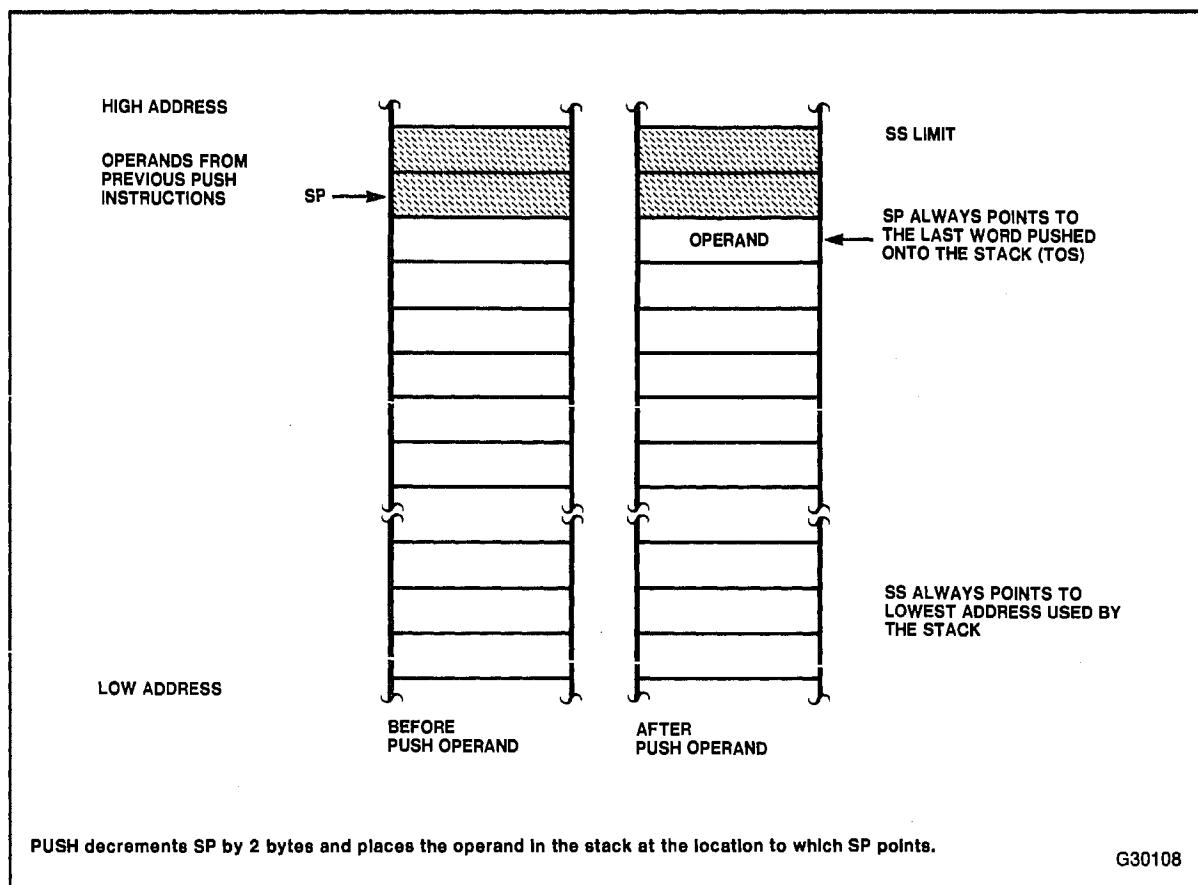

Figure 3-1. PUSH
PUSH (*Push*) decrements the stack pointer (SP) by two and then transfers a word from the source operand to the top of stack indicated by SP. See figure 3-1. PUSH is often used to place parameters on the stack before calling a procedure; it is also the basic means of storing temporary variables on the stack. The PUSH instruction operates on memory operands, immediate operands (new with the 80286), and register operands (including segment registers).